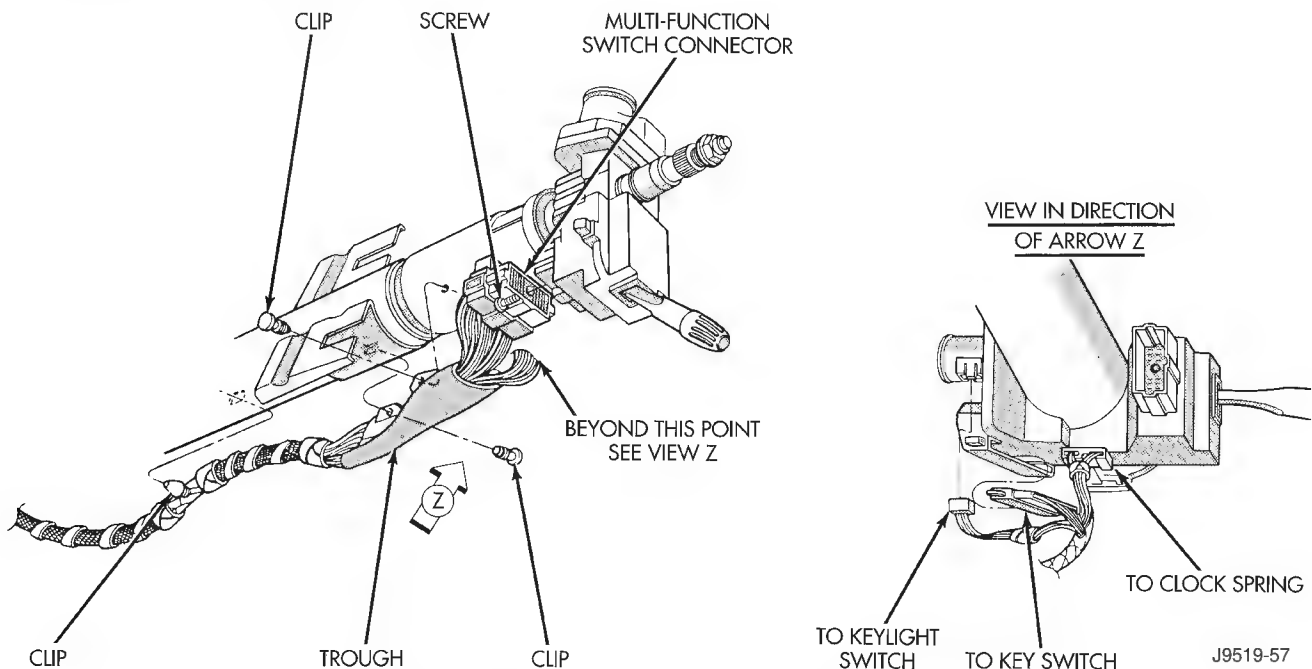
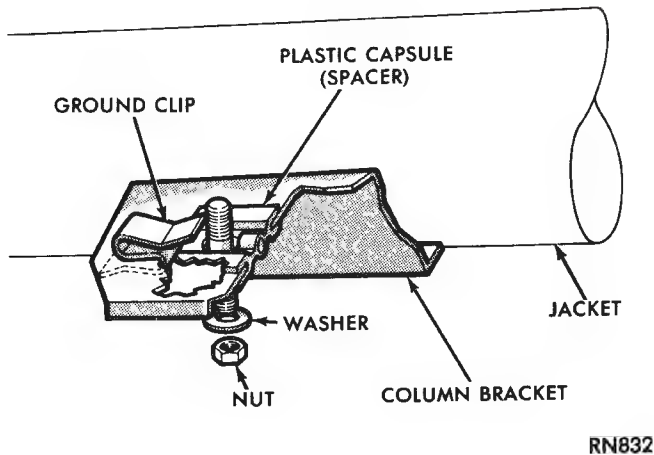

Fig. 16 Steering Column Wiring Harness
Fig. 17 Ground Clip & Spacer Installation
(13) Remove the wiring harness from steering column (Fig. 16).
(2) Ensure the ground clip is on the left spacer slot (Fig. 17).
(3) Install the Interlock cable from the steering column. Refer to Automatic Transmission Shifter/Ignition Interlock in this group.
(4) Install wiring harness connections to steering column (Fig. 16). **Ensure the wiring is not pinched and all connections are correctly locked in place.**